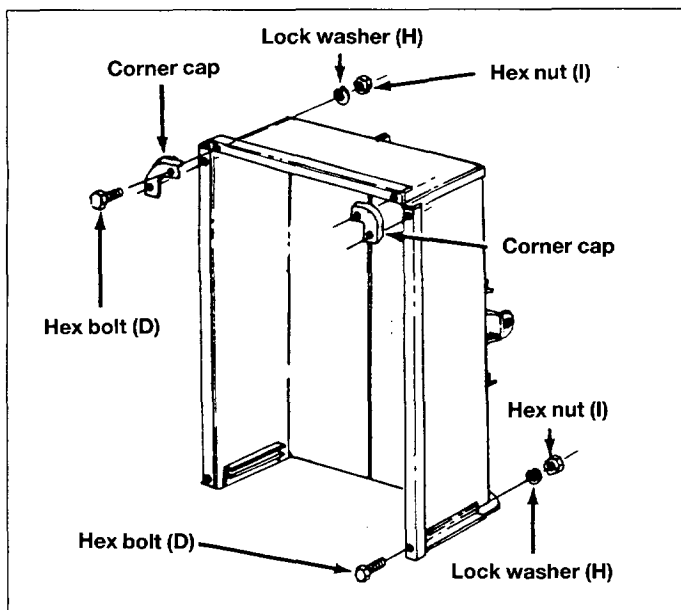

Fig. 10
15. Assemble two front top corner caps and two bolts in top flanges through tailgate reinforcement bracket using $1/4" \times 1/2"$ (6 $\times$ 12 mm) hex bolts (D), lock washers (H) and hex nuts (I). See figure 10.